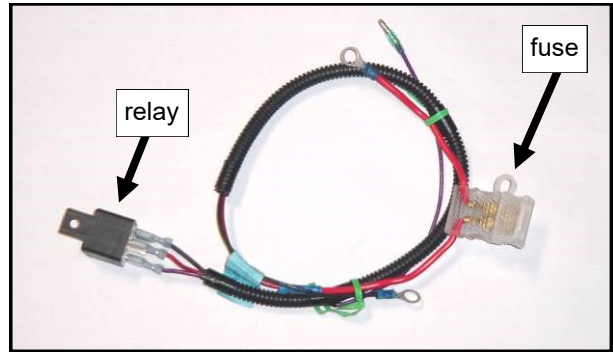

Fig. 7.1 (wire harness 2 of 2)
7.1 Per fig. 7.1, install the final wire harness. Note: if installing more than one accessory, you will only need to install one of these wire harnesses which has the relay and fuse. Discard these specific additional wire harnesses that are supplied with each separate accessory kit.